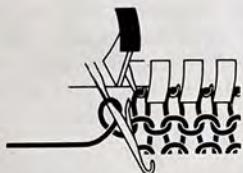

Fig. 46
- Increasing one stitch at left. Lock at left. At left put one needle in rest-position and wind yarn around according to fig. 46, taking care that the loop is placed behind the open latch. Put corresponding sinker in rest-position. Return new needle to yarn receiving-pos. fig. 46 and move lock to right.